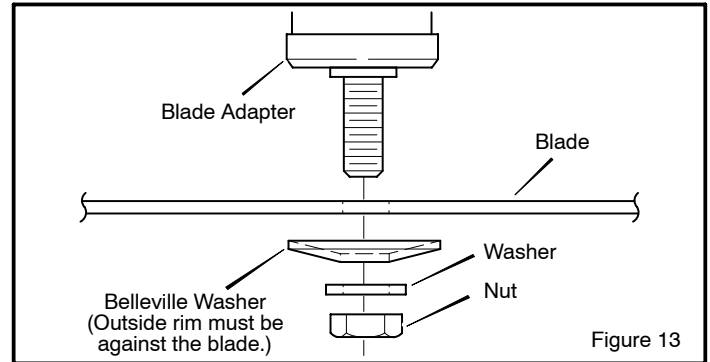

Figure 13
8. Fasten the **blade** with the original washers and **nut**. Make sure the outside rim of the **Belleville washer** is against the **blade** (Figure 13).